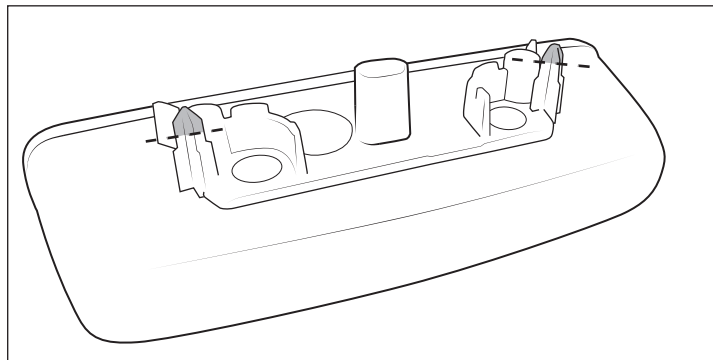

Figure 27
- A. Trim the alignment pins from the factory third brake light flush with the mounting holes (fig. 27).